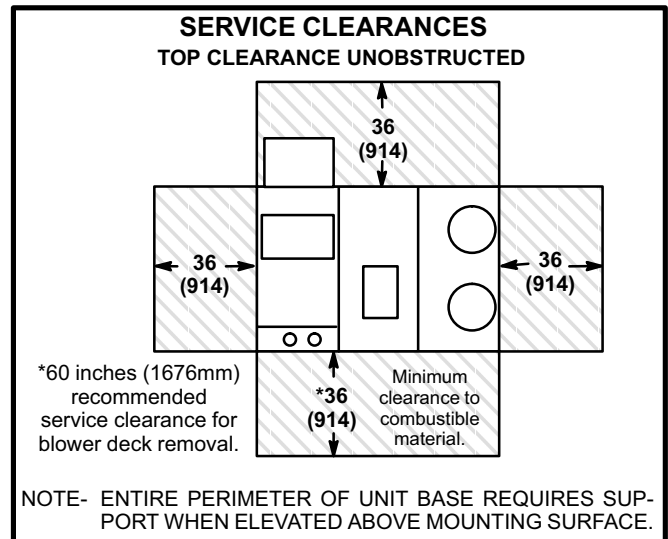

FIGURE 1
The LHA unit is ETL certified for outdoor installations only at the clearances to combustibile materials listed on unit nameplate and in figure 1.
The LHA unit is Canadian Gas Association (C.G.A.) certified as a heat pump with cooling and with or without auxiliary electric heat for non-residential use only at the clearances to combustible materials as listed on the unit nameplate and in figure 1.
- 2- Specified installation clearances must be maintained when installing LHA units. Refer to figure 1.